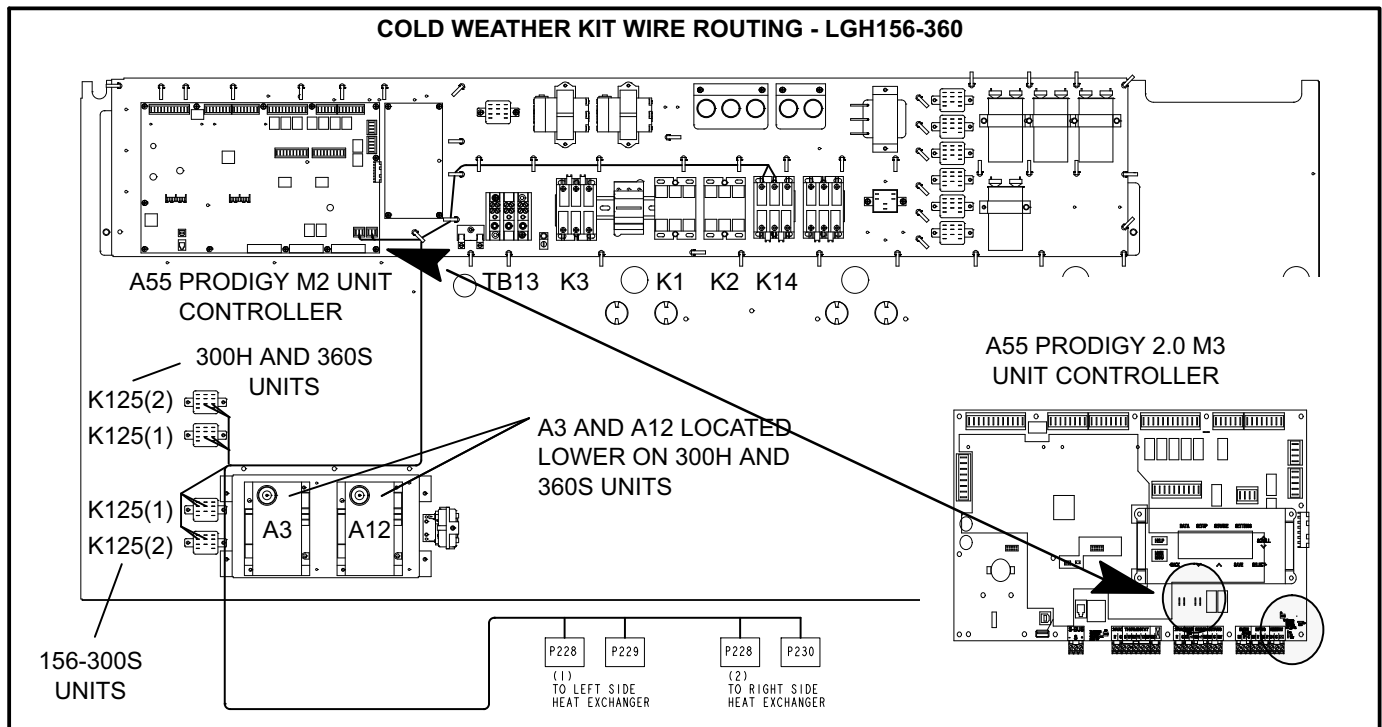

FIGURE 9
compressors. Secure with #8 screws. See figure 9.
- 4- Locate harness labeled 604784-01 and route as shown in figure 9. Secure with wire ties. Discard harness labeled 604785-01.
- 4- Locate harness labeled 604785-01 and route as shown in figure 9. Secure with wire ties. Discard harness labeled 604784-01.